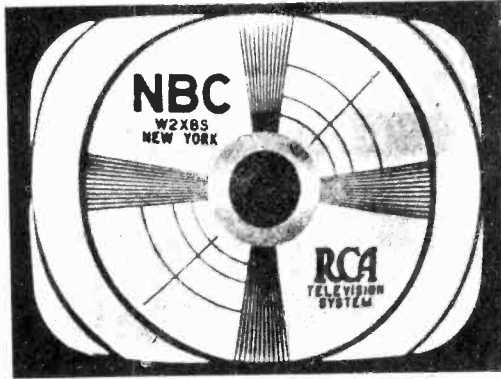
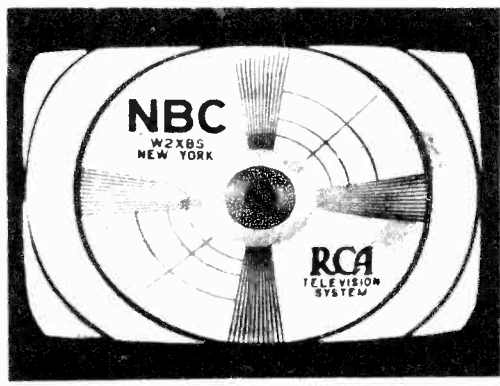

Figure 5—
Figure 13—
**FINE TUNING CONTROL** This control is used to obtain best picture reception by eliminating possible distortion from interfering signals which show a moving ripple in the picture. Should this control be incorrectly set, picture distortion will result. In most cases this control should be adjusted for each television channel by listening to the accompanying sound until maximum volume is obtained, using a medium or low level and noting that the picture is not distorted at this setting. See picture chart - (Fig.5) illustrates the test chart picture when all controls are correctly adjusted. (Fig.9) shows the effect on the picture of extraneous interference that in some cases can be eliminated by a slight readjustment of the fine tuning control. (Fig.10) shows what also may occur when the fine tuning control is incorrectly set.
contrast level of the picture. Turning this control slowly clockwise increases the picture contrast from grays to black and white. Excessive contrast gives blurred or feathered outline to the images which lack half tones, while too little contrast results in an extremely gray image without character or depth. The correct adjustment is to set the controls (both Contrast and Brightness) where black objects appear on the screen as a very dark gray. See picture chart - (Fig.5) shows the received test chart picture with the controls set correctly. (Fig.6) illustrates the picture with the contrast advanced too far.
**HORIZONTAL CENTERING** The horizontal centering control is a screw driven adjustment located as shown in Fig. 2 and made at the time of installation. It serves to center the picture horizontally on the picture screen. It may require slight resetting if the receiver location is changed, tubes replaced or power line conditions varied. See picture chart - Figure 11 indicates what occurs when this control is incorrectly set. Figure 5 is the correct position.
**VERTICAL CENTERING** The Vertical Centering control is a screw driven adjustment shown in Fig. 2 and is used to center the picture vertically with respect to the screen opening. Resetting may be necessary for the same conditions outlined under "Horizontal Centering". See picture chart - Figure 12 indicates what occurs when this control is incorrectly adjusted. Figure 5 is the correct position.
**PICTURE HEIGHT** This control varies the height of the picture and is a screw driven adjustment made when the receiver is installed. See picture chart - Figure 13 shows what occurs when this control is incorrectly adjusted. Figure 5 is the correct position.
**PICTURE WIDTH** This control increases or decreases the width of the picture and is a screw driven adjustment made at the time of installation. See picture chart - Figure 14 shows what occurs when this control is incorrectly set. Figure 5 is the correct picture.
**FOCUS CONTROL** Located as shown in Fig. 2, this control is designed to bring the television images into sharp focus or definition. This control, once adjusted, should not be tampered with. When correctly focused the lines of which the picture is composed are sharply defined. A slight rotation one or other direction will indicate defocusing. See picture chart - Figure 15 illustrates what happens when the focus control is incorrectly set. Figure 5 when correctly set. What happens during a given program, scenes may be out of focus while others are sharp. This condition arises at the transmitter and cannot be corrected at the receiver.
- A slight adjustment of this control in the one or the other direction will eliminate the above effects. See picture chart - Figures 16 and 17 shows what the picture looks like when this control is incorrectly set. Figure 5 shows the correct setting.
**VERTICAL HOLD CONTROL** This control synchronizes the pictures at the receiver vertically with the transmitter. When out of adjustment, the picture may slip or revolve upwards or downwards at either a slow or fast rate. Turn the control in one direction. If the revolving motion is faster, then turn in other direction until the picture "locks in" as a single complete scene. See picture chart - Figure 18 illustrates the effect on the picture when this control is incorrectly set. Figure 5 shows the correct picture setting.
**VERTICAL LINEARITY CONTROL** This is controlled by means of a screw driven adjustment. The adjustment must be correct and in conjunction with the Height control to give the correct vertical proportions to the picture. It may require readjustment if the Vertical Centering control is reset. See picture chart - Figure 19 indicates the unbalance in Vertical Height of the picture when this control is incorrectly set. Figure 5 shows the correct setting.